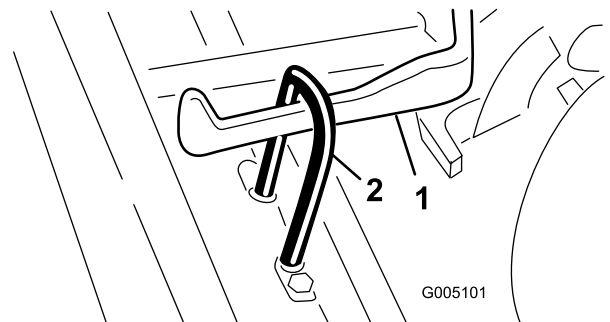

Figure 5
2. Slide the cutting unit under the pull frame while sliding the lift hook onto the lift arm (Figure 5).